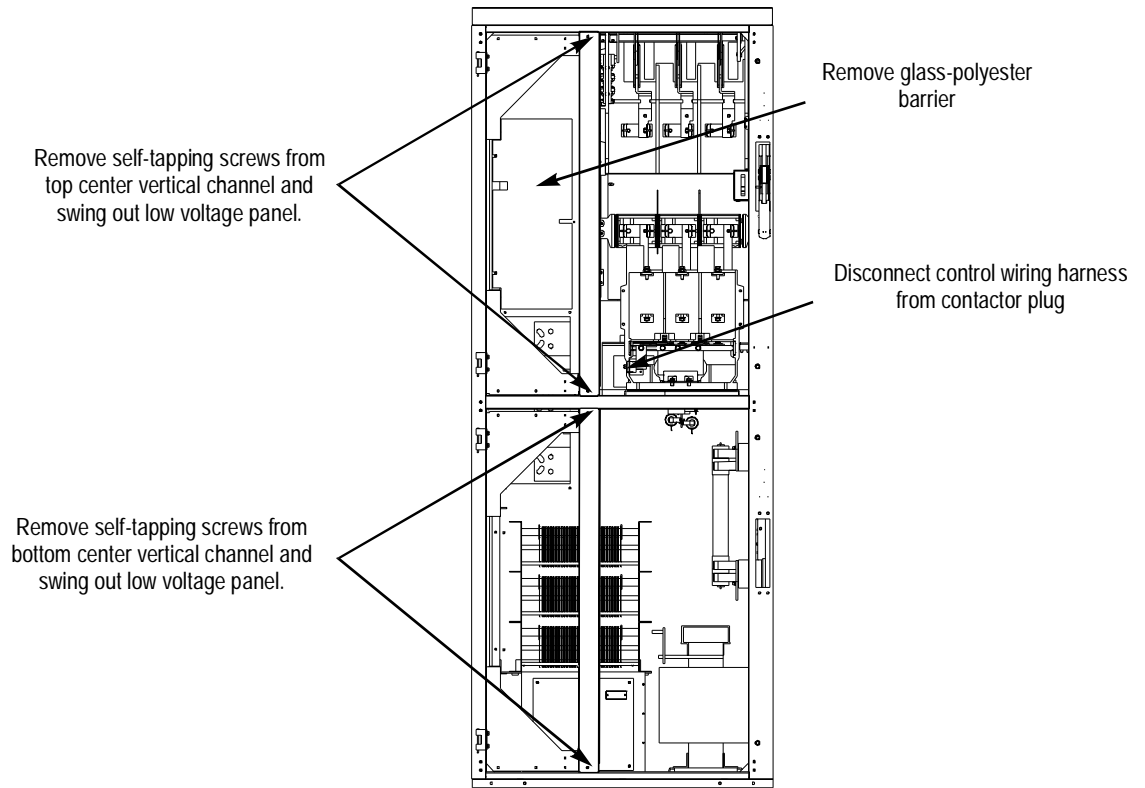

Figure 2.1 – Access to Cable Terminals (Low voltage panels not shown)
- 1) Disconnect the control wiring harness from the wire plug at the lower left side of the contactor (see Figure 2.1).
- 1) Remove the two self-tapping screws from the bottom center vertical channel (see Figure 2.1).